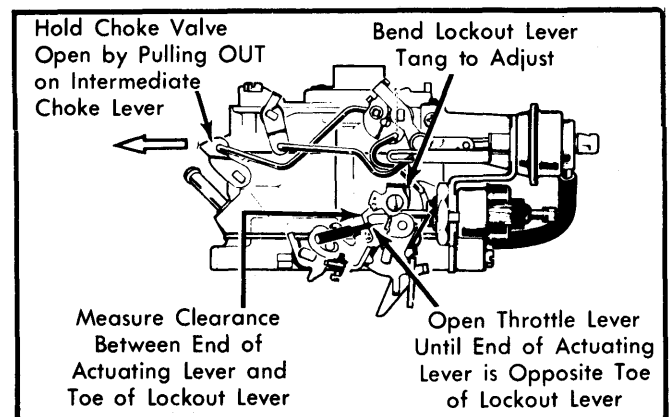

Fig. 10 Adjusting Secondary Throttle Lockout
- 1) Hold choke valve wide open by pulling out (counterclockwise) on intermediate choke lever. See Fig. 10.